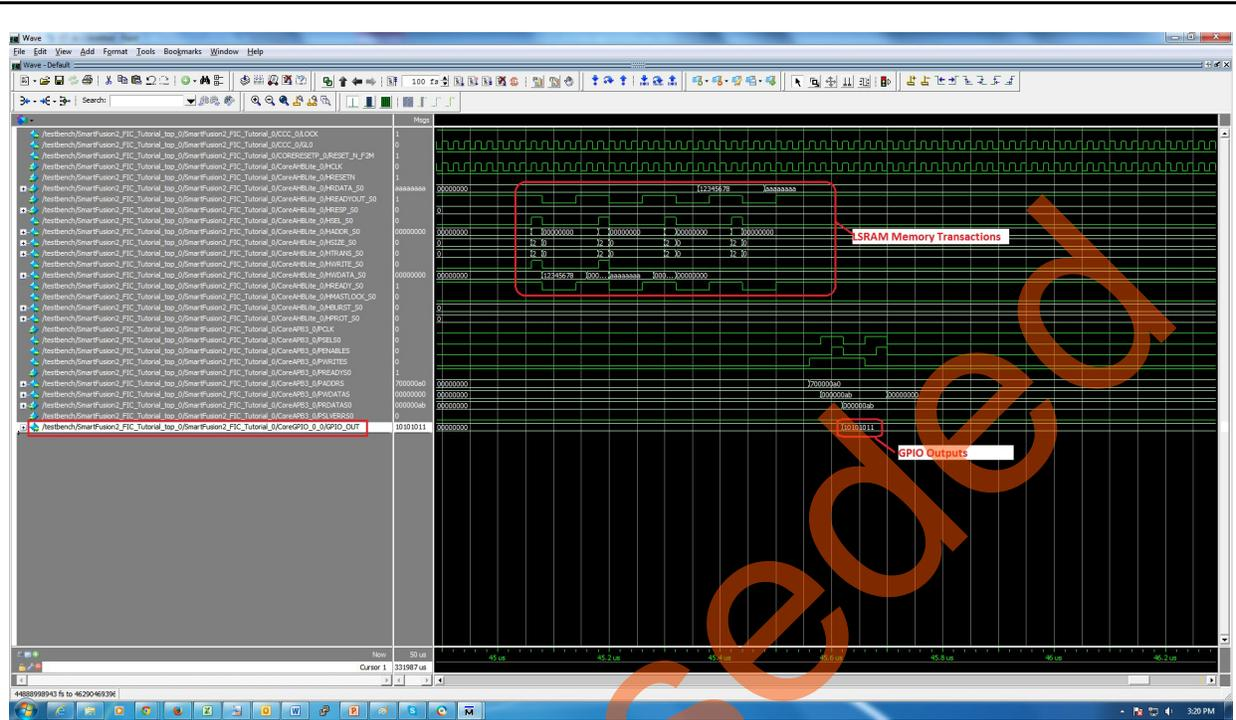

Figure 31 • Design Simulation Waveforms
9. After successful BFM simulation, observe the ModelSim waveform window for the read and write bus transactions to the fabric peripherals, as shown in Figure 31. Notice the result of GPIO configuration BFM commands in GPIO states.